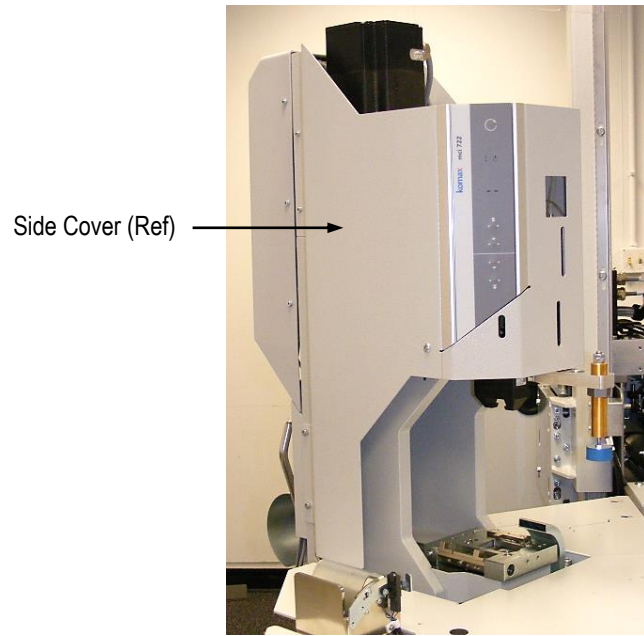
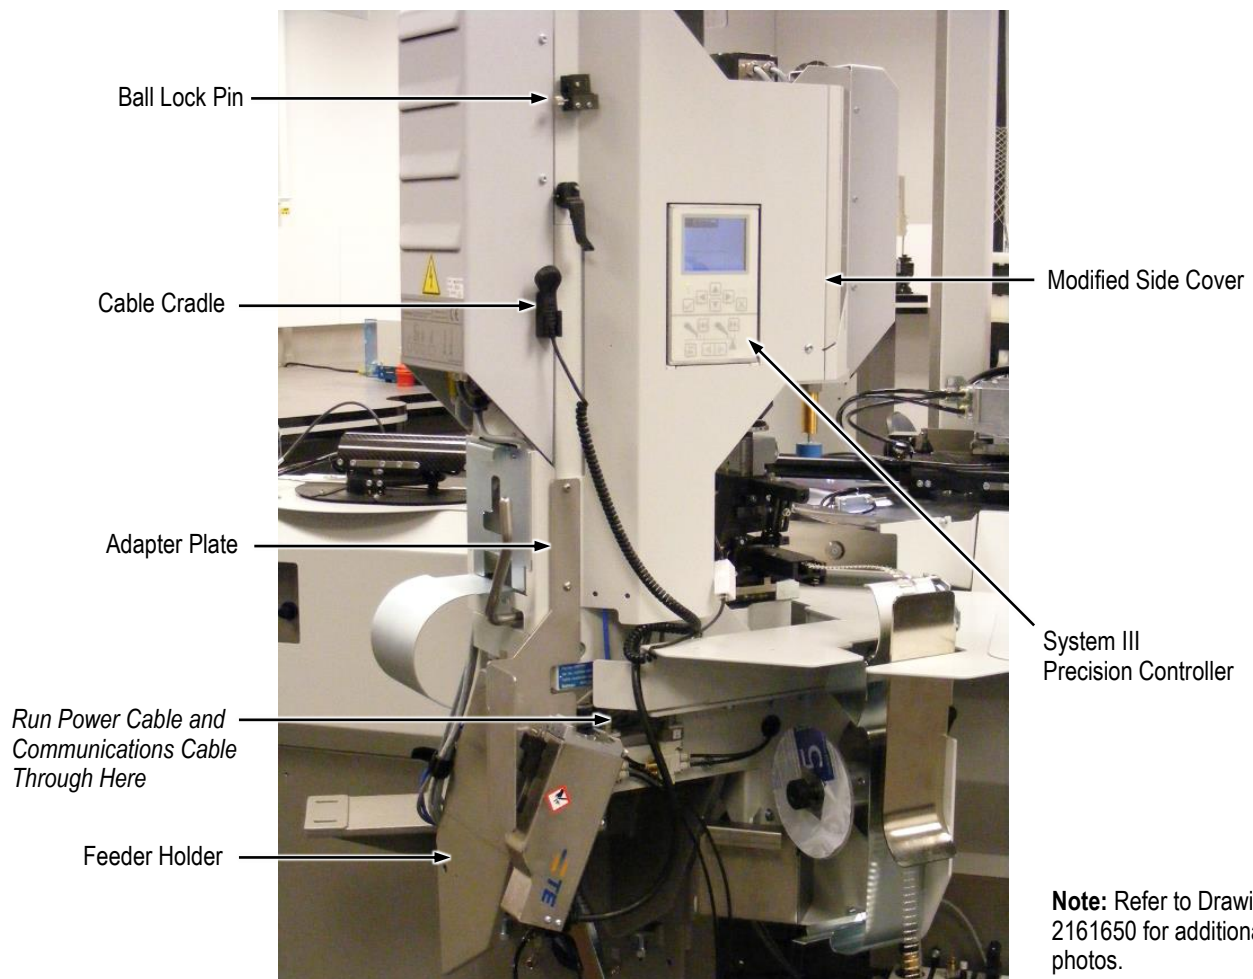

Figure 3
Figure 4
1. Remove the side covers (see Figure 3) from the existing terminating unit, and install modified side cover 2-509805-3. Refer to drawing 2161650. See Figure 4.
2. Install the adapter plate, feeder holder, cable cradle, and ball lock pins. Refer to Figure 4.
- b. Route the cable along the back side of the terminator. See Figure 4 and Figure 5.